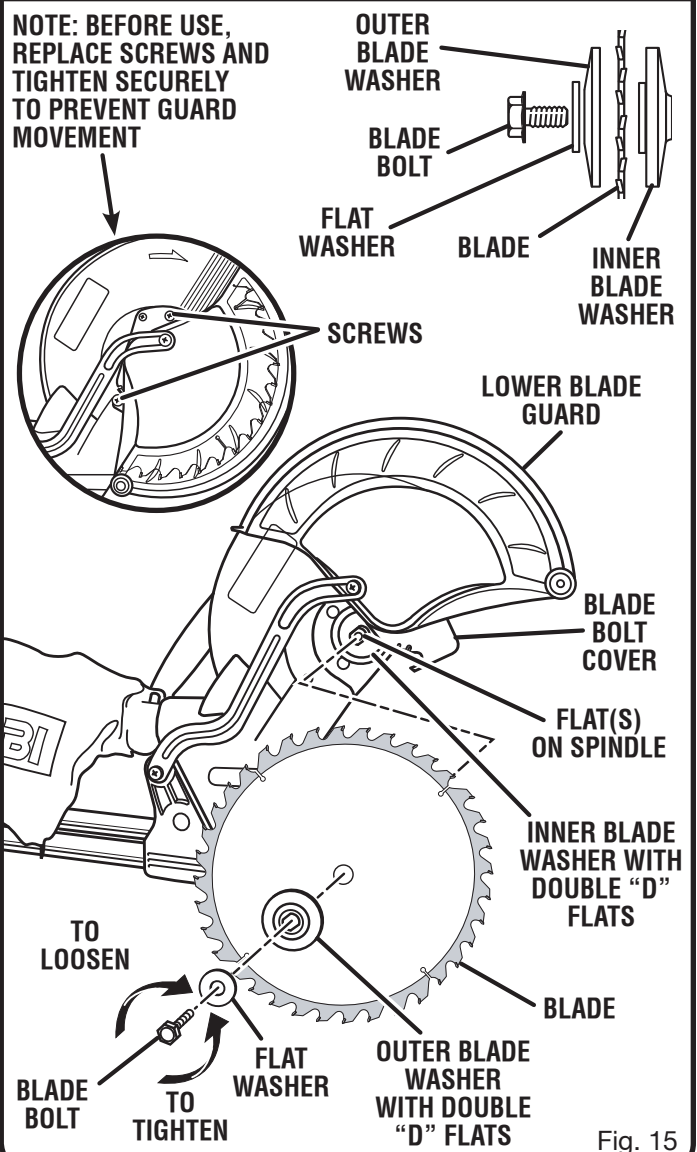

Fig. 15
- Fit saw blade inside lower blade guard and onto spindle. The blade teeth point downward at the front of saw as shown in figure 15.